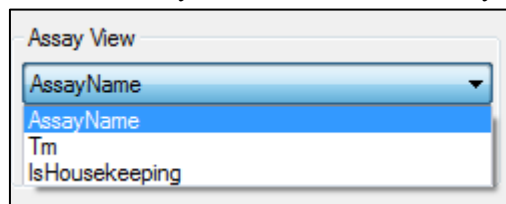

Figure 37. Assay View list.
- i. Select the assay attribute from the "Assay View" list (Figure 37).